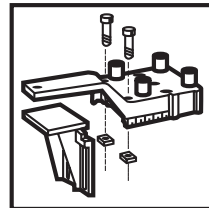

Figure 37
7. Attach the angle piece to the dowel jig using the screws and square nuts. Insert the screws through the two holes on the top of the jig and attach the square nuts to the bottom. Do not tighten. Slide the angle piece into the slot between the bottom of the jig and the square nut. Keep the angle piece slightly loose. See Figure 37.